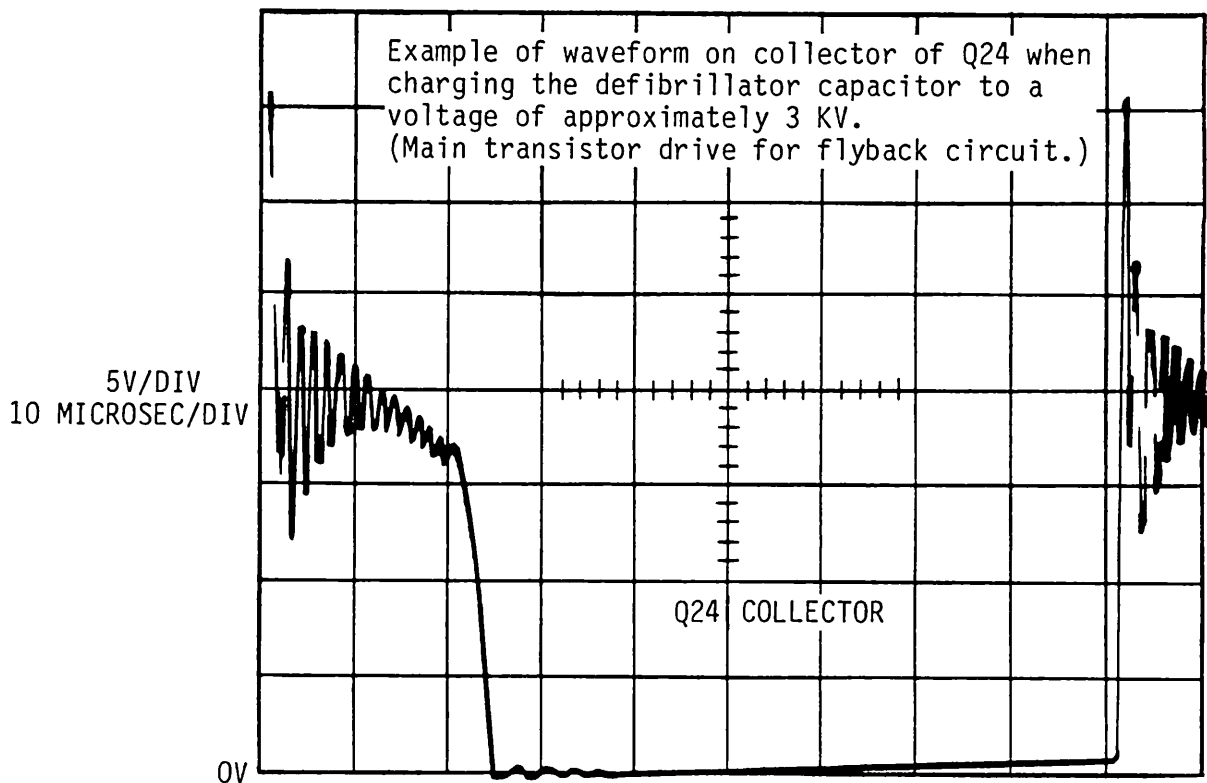

FIGURE 4-7. DC DEFIBRILLATOR KEY VOLTAGE WAVEFORM
- G. Adjust R61 (Q24 off-time) for maximum frequency of the displayed waveform with minimum ringing. The correctly adjusted waveform seen at T1 Pin 2 is shown in Figure 4-7.
- F. Check that the display closely matches that of Figure 4-7. The curve should be smooth and continuous, and the entire pulse duration should not exceed 10ms (at 10% of peak value), and is less than or equal to 2A.